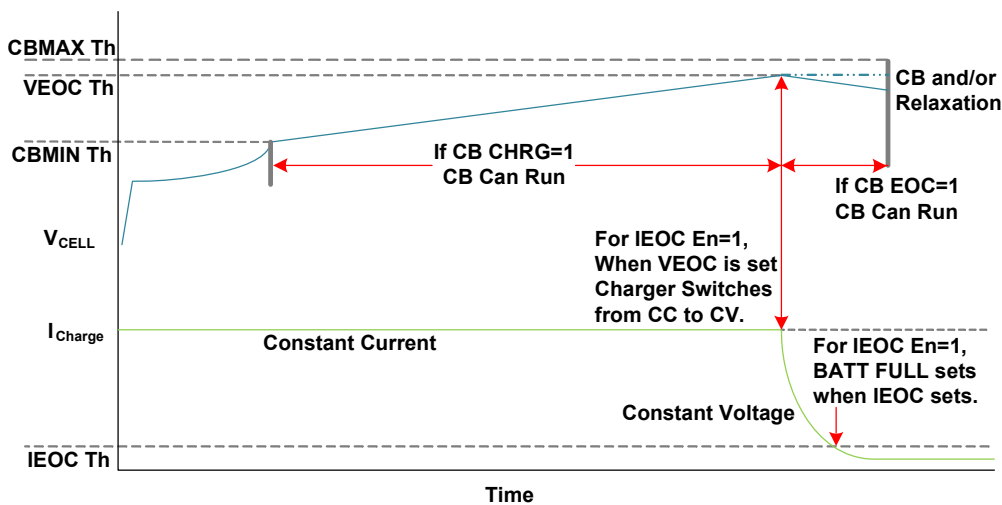

Figure 108. A Typical Charge Characteristic Curve
The ISL94216 has features that support both Constant Current (CC) and Constant Voltage (CV) charging. A typical charging profile for a battery cell is depicted in Figure 108. Cell balancing can occur only when the cell voltage is between the CBMIN and CBMAX limits, which are independent of CB EOC and CB CHRГ bit settings.